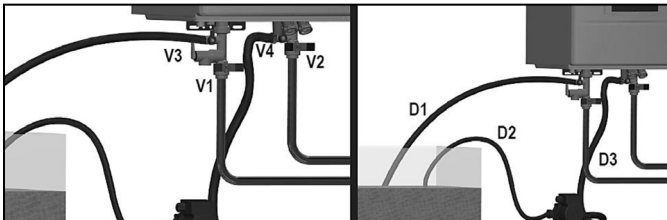

Figure 64 - Flushing the Water Heater
2. Close the shutoff valves on both hot water outlet and cold water inlet lines (V1 and V2). See Figure 64.
3. Connect one hose (D1, Figure 64) to the valve (V3) and place the free end in a bucket. Connect one of the hoses (D3) to the circulation pump outlet and the cold water inlet line to valve V4. Connect the other hose (D2) to the circulation pump inlet and place the free end in the bucket.